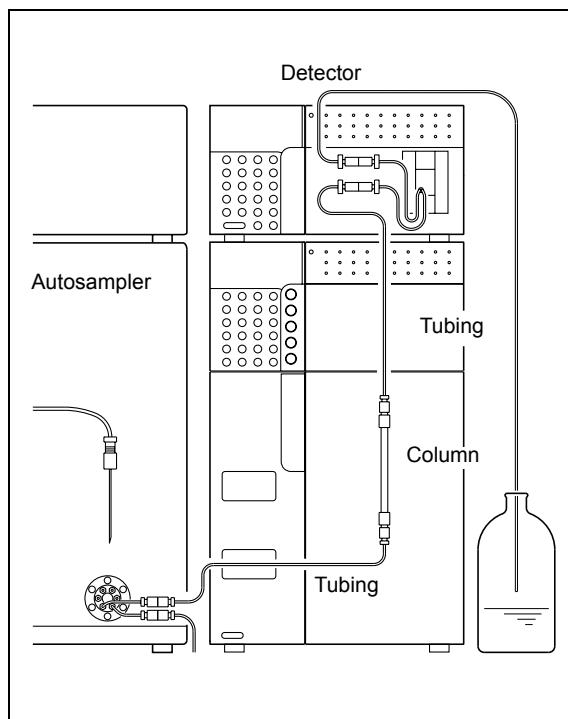

Fig. 7.14
- 4** When cleaning is finished, pour mobile phase (A: water, B: methanol) into the reservoir, and reconnect the column with the LC system (Fig. 7.14).